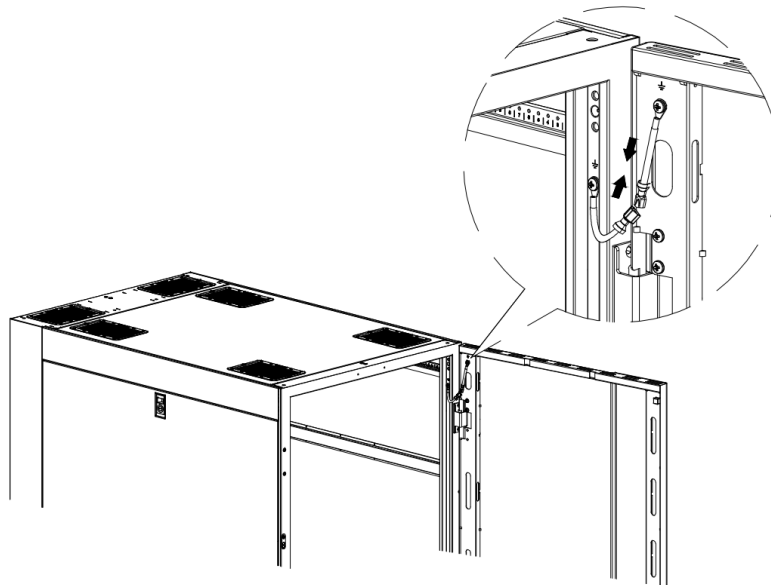

Figure 6.3.4
- Connect grounding wires on the top or bottom. (Figure 6.3.4)